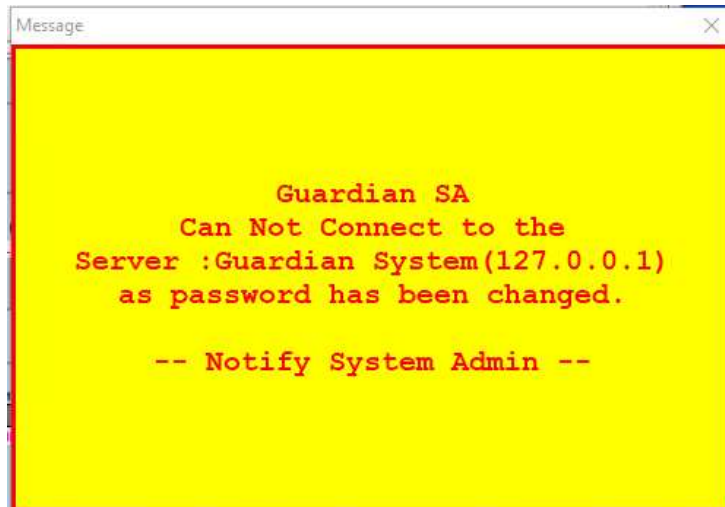

Figure 33 – Password Changed Popup
1. All of the SA Clients, when they attempt to reconnect to the Server, **will** show the Server as Disconnected and/or will show a “password has been changed” dialog, Figure 33. Each user will have to go into the “File” → “Server Connect Configuration”, select the affected Server and re-enter the Client Password.